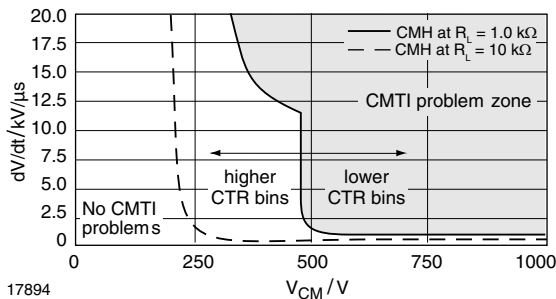

Fig. 18 - Typical  $CM_H$  with  $R_{BE}$  Characteristics for 6 pin Transistor Optocouplers with External Base Connection
Due to the strong influence of semiconductor parameters (compare especially with equation (8)), it is hardly possible to give a general curve which is valid for all optocouplers. Hence, figure 18 gives only a general approximation without claiming to be valid for every type.
- If operating the phototransistor in transistor switch or emitter follower mode, a low-value pull-up resistor should be chosen (compare with figure 18)
- Choose low-CTR binning types (compare with figure 18), because of their lower  $h_{FE}$